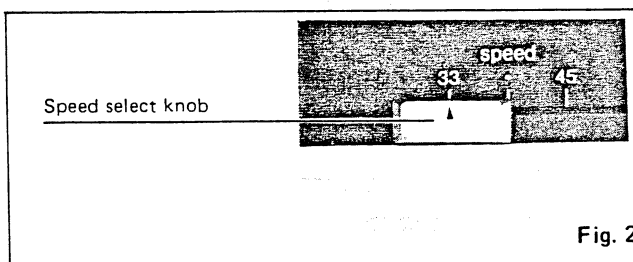

Fig. 2
2. Set the speed select knob to the desired record speed. (See Fig. 2.)